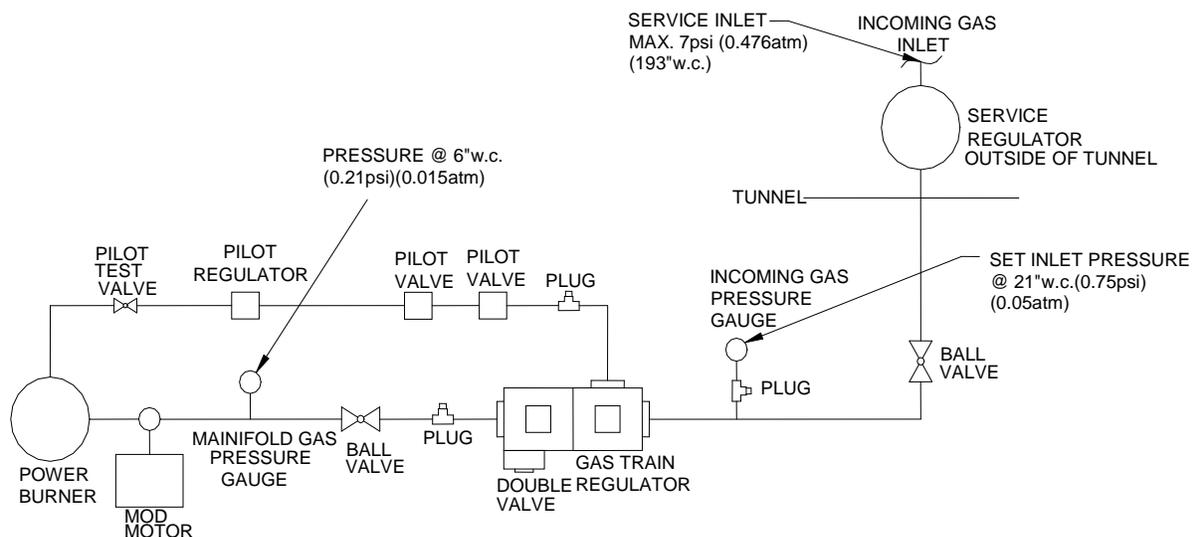

Figure 8
3. Screw regulator on with arrow on casting pointed **downward** (Figure 8).